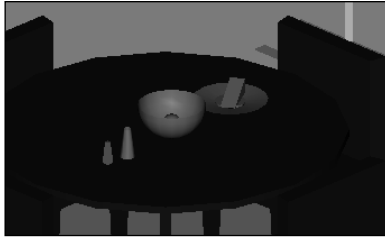

Figure 25-3: An initial rendering using default options and a crop window.
5. At the Pick crop window to render: prompt, pick a window similar to that shown in Figure 25-3. Wait until AutoCAD renders the drawing.
6. Save your drawing. It should look like Figure 25-3. As you can see, the rendering is too dark and the objects need realistic materials.